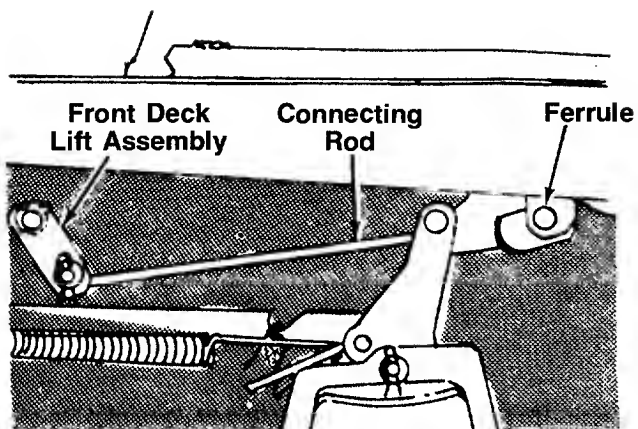

FIGURE 10.—Model 800
2. Remove the hairpin cotter and flat washer which hold the deck lift connecting rod to the front deck lift assembly. See figure 10.
3. Remove the connecting rod from the deck lift assembly and thread it in or out of the ferrule as necessary. See figure 10. Replace the rod.